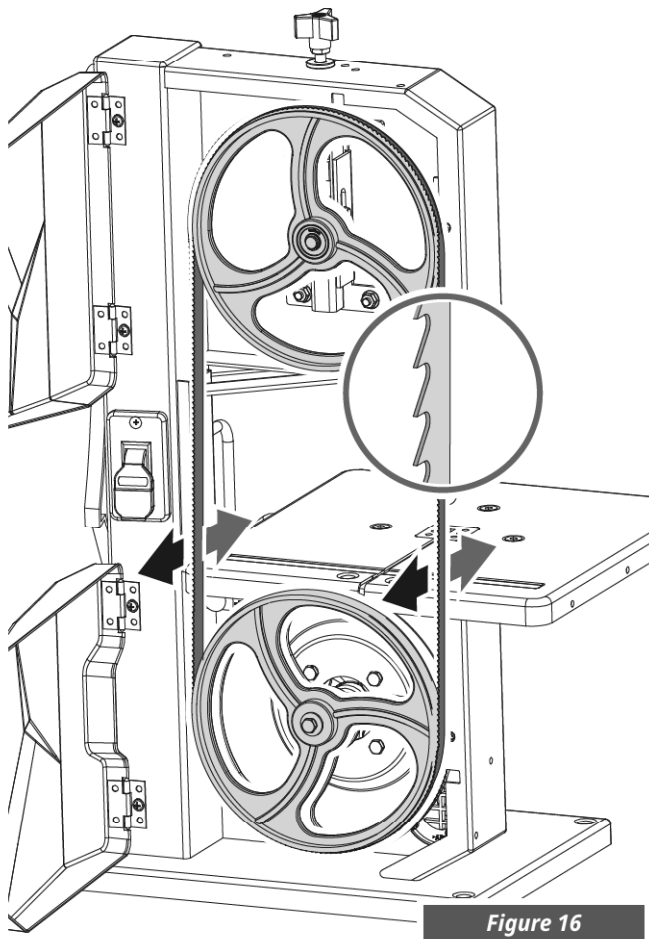

Figure 16
- Stop saw, unplug and recheck settings. (See Figure 16)